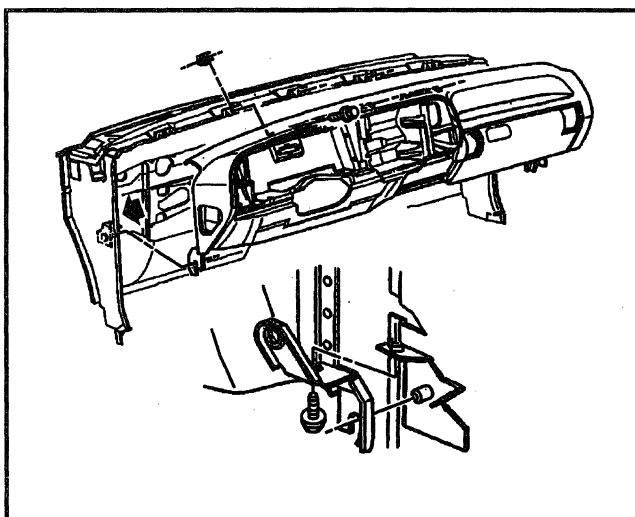

Figure 16—I/P Pivot Bolts
17. Left and right lower I/P pivot bolts (Figure 16).